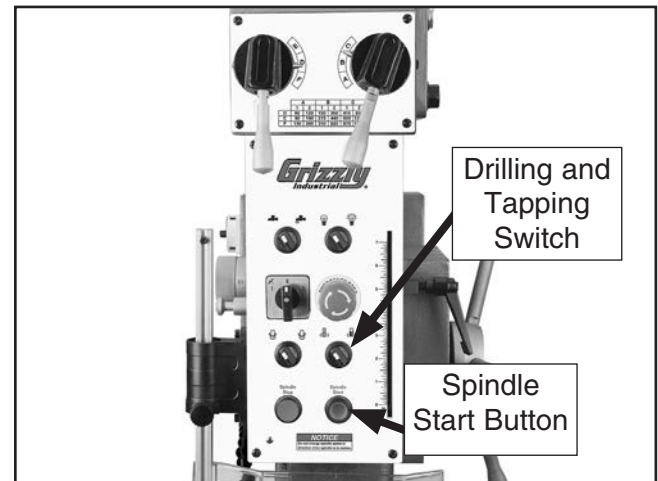

Figure 15. Drilling/tapping switch.
1. Move the drilling & tapping switch to the drilling position (see **Figure 15**).